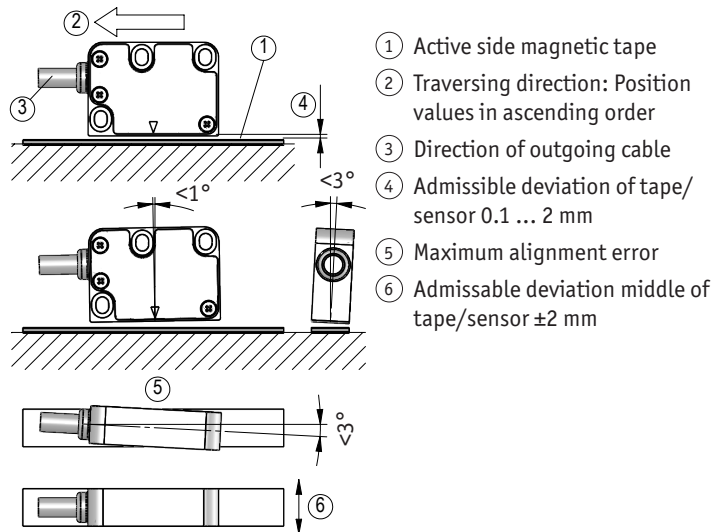
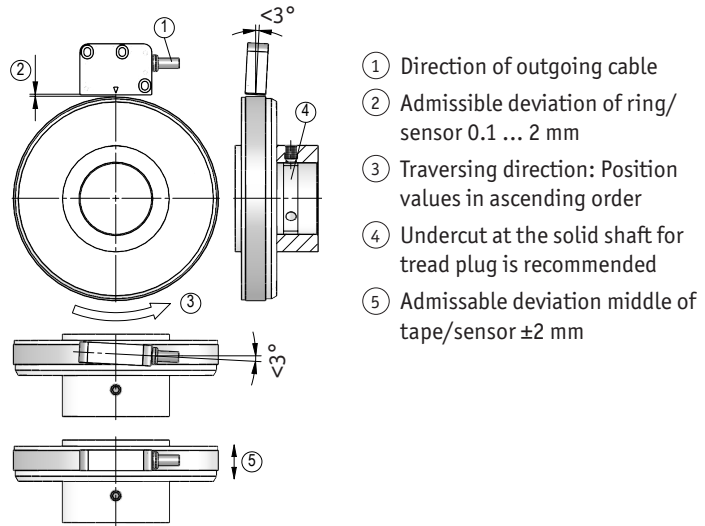

Fig. 6: Definition of the counting direction with magnetic tape and assembly sensor / magnetic tape, gap measure, tolerances
Fig. 7: Definition of the counting direction with magnetic ring and assemblage sensor/magnetic ring, gap measure, tolerances
- Take care that the magnetic sensor is aligned correctly in order to ensure optimum sensing (see Fig. 6).
3. Provide for a relief groove in the solid shaft (see Fig. 7).
- The distance tolerances were not observed over the whole measuring length (see Fig. 6, Fig. 7).
- The magnetic sensor has been mounted with the active side turned away from the band (see Fig. 6, Fig. 7).
- Magnetic sensor has not been aligned according to Fig. 6, Fig. 7.